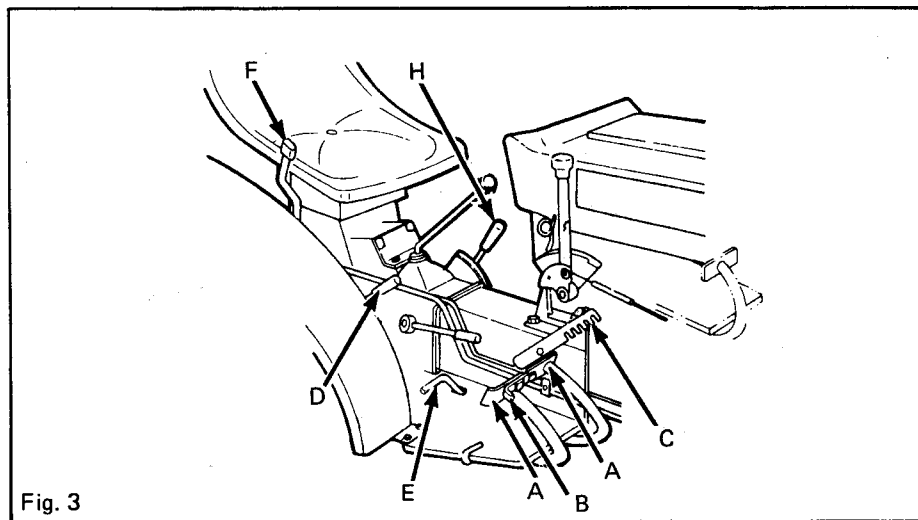

Fig. 3
Parking brake lever (C) Figure 3. Lock brakes in engaged position by depressing brake pedals and pulling locking lever rearward. To hold tractor in stationary position, brake lock plate "B" must be engaged across pedals.
Four wheel drive (D) Figure 3 - is used to engage or disengage front axle drive system. Stop tractor, depress clutch to make selection. If lever cannot be moved into "Engage" position, move tractor forward or backward until shifter moves with minimum effort. If shifter does not move freely to "disengage", move tractor in direction opposite to previous motion to relieve "wind up" of gear train.
Differential lock (E) Figure 3, is used to overcome rear wheel slippage by locking the rear axles so they must rotate.